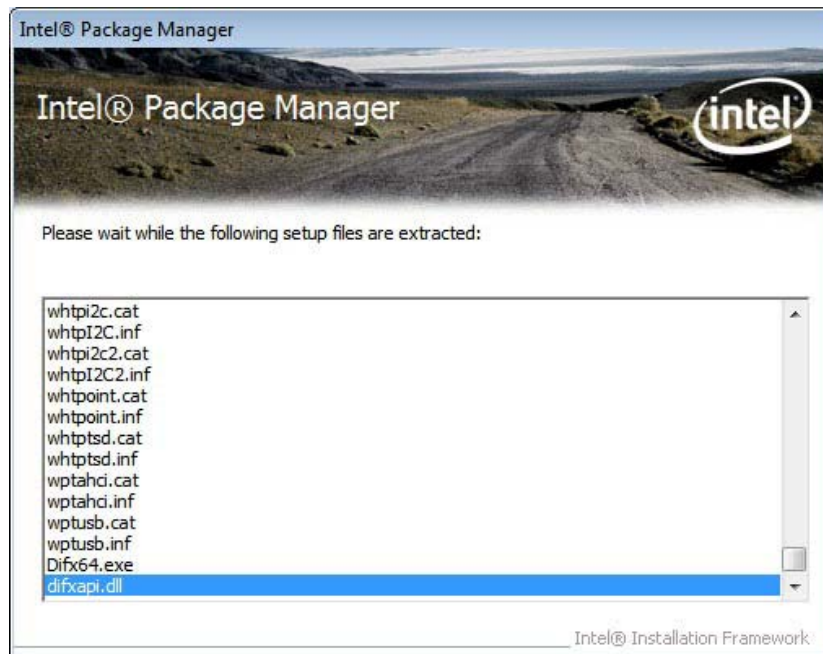

Figure 6-3: Chipset Driver Screen
Step 6: The setup files are extracted as shown in **Figure 6-3**.